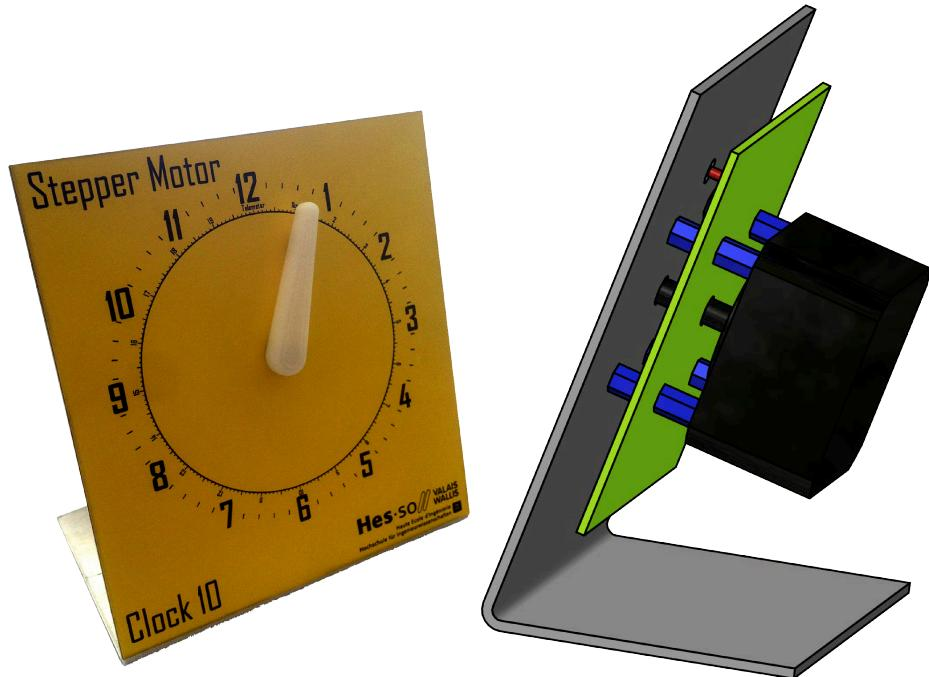

Figure 7 - Assembling the chrono dial
- A chrono assembly with a “Printed Circuit Board \(PCB\)” board that controls the motor and reads the sensor, see Figure 7.